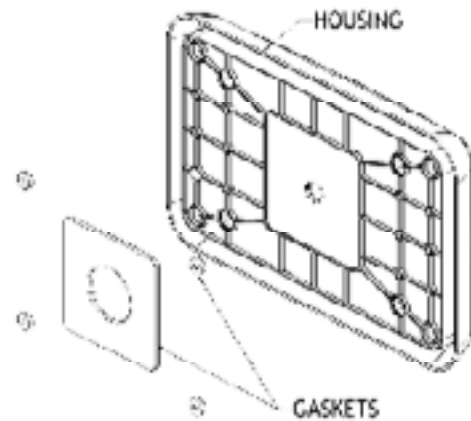

Figure 2
- Mounting Place HOUSING over an installed electrical junction box (drill points provided for temporary j-box attachment prior to permanent mounting). Locate and drill 4 pilot holes in mounting surface using HOUSING as a template. (Fig.2): For wet location installation, attach self-adhesive pad GASKETS to HOUSING at (4) mounting holes and center wiring hole. Observe correct orientation of UP indicators molded into housing. Using ¼” fasteners and anchors appropriate for the mounting surface (not supplied), attach HOUSING to structure.